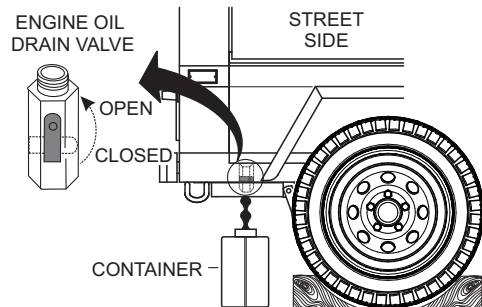

Figure 51. Draining Engine Oil
3. The engine oil drain valve is located underneath the trailer frame (street-side). Place the valve knob in the **OPEN** position (Figure 51) to drain the engine oil.